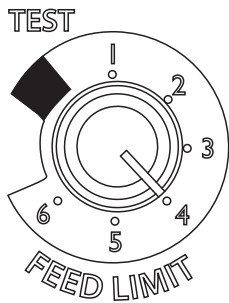
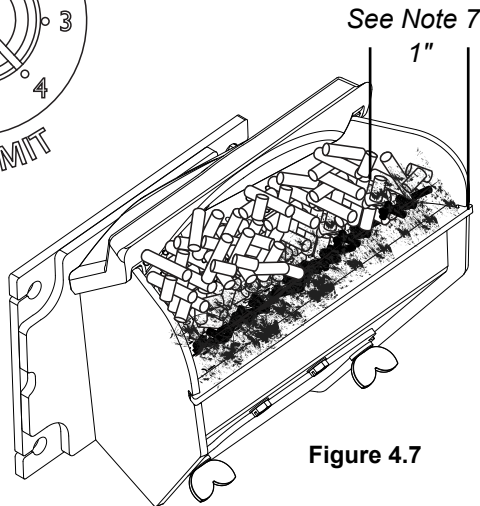

Figure 4.6
Figure 4.7
4. Adjust Feed Rate. If this is your first fire or you are trying different pellets, set the Feed Limit to #4, Figure 4.6 This is a conservative number and will probably need to be increased. After you know a feed rate setting that works well, use that setting. Remember, if your feed rate is too high you may waste fuel.
7. Setting the Feed Limit # for maximum burn: With the unit burning in "AUTO", turn to "Stove Mode" and put the fan on "H". Set the Temperature Dial to #7. Allow the unit to burn for about 30 minutes and check ash on front of burn pot. Figure 4.7. If the ash line is larger than 1", turn the Feed Limit from #4 to #5. Allow another 30 minutes of burn time and check again. If, at #6 setting, a 1" or less ash bed is not obtainable, it is not a problem. The 1" ash bed is only at maximum burn rate and during normal operation, the ash bed will be larger.
High output is determined by the feed rate setting. This setting, generally on #4, can be increased if higher burn rates are necessary (Figure 4.6). The unit's maximum burn rate should not create less than 1" of ash on the burn pot front edge (Figure 4.7). Overfeeding is not a safety concern, but fuel may be wasted if unburned pellets fall into the ash pan.
This allows for automatic ignition upon start-up only. The unit can then be set at any desired setting. The heat output and fuel consumption will remain constant regardless of room temperature. The unit's maximum feed rate should not create less than 1" of ash on the burn pot front edge. Figure 4.7.